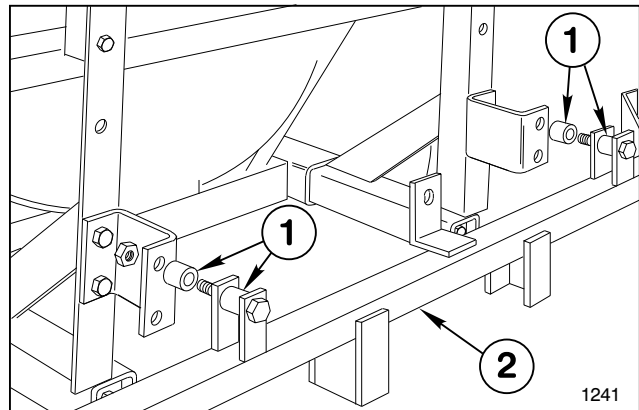

FIG. 13
6. Position a Spacer Tube between the lugs on each side of the Main Frame tube and between Main Frame and Boom Mounting Brackets. Insert a 1/2" x 3-1/2" cap screw through the lugs and spacers. Secure the Main Frame to the Boom Mounting Brackets with lock nuts. See FIG. 13.